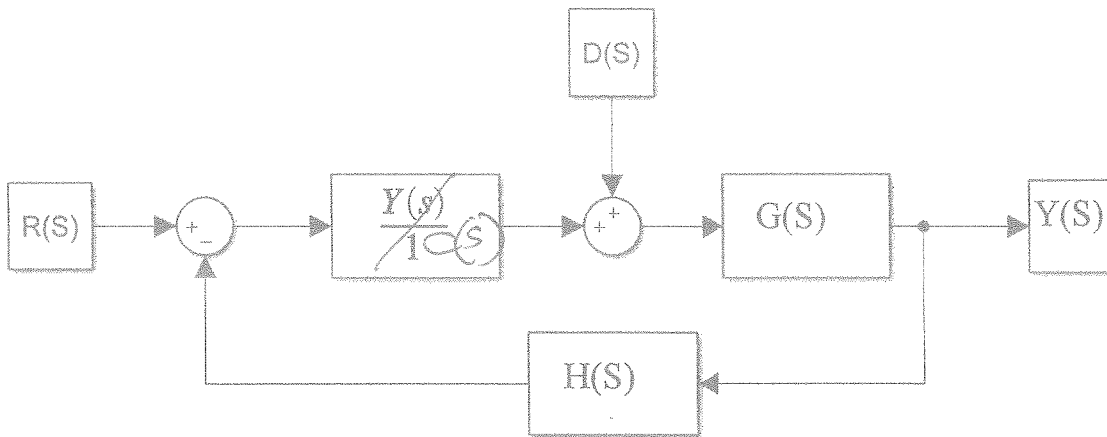

Figure Q1
- Convert the equation (1) into transfer function form in the Laplace domain. (i.e. Obtain  $G(S)$ .) [1.0 Mark]
- Figure Q1 shows the above system  $G(S)$  with a controller  $C(S)$ , Feedback dynamics  $H(S)$  and Disturbance  $D(S)$ . Obtain the expression for  $Y(S)$  in terms of  $R(S)$ ,  $C(S)$ ,  $D(S)$ ,  $G(S)$  and  $H(S)$ . [2.0 Marks]
- The system shown in Figure Q1 has  $H(S) = 1$ , and feels disturbance of  $\frac{2}{s}$  while subjected to a unit step input. The system has a proportional only controller having